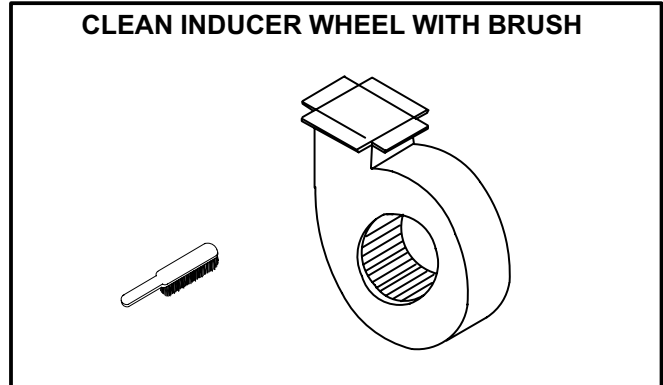

FIGURE 23
- 3- Clean inducer wheel with a small brush and wipe off any dust from housing. See figure 23. Clean accumulated dust from front of flue box cover. Inspect flue passageway and flue box when removing the combustion air inducer. If cleaning is necessary use wire brush.